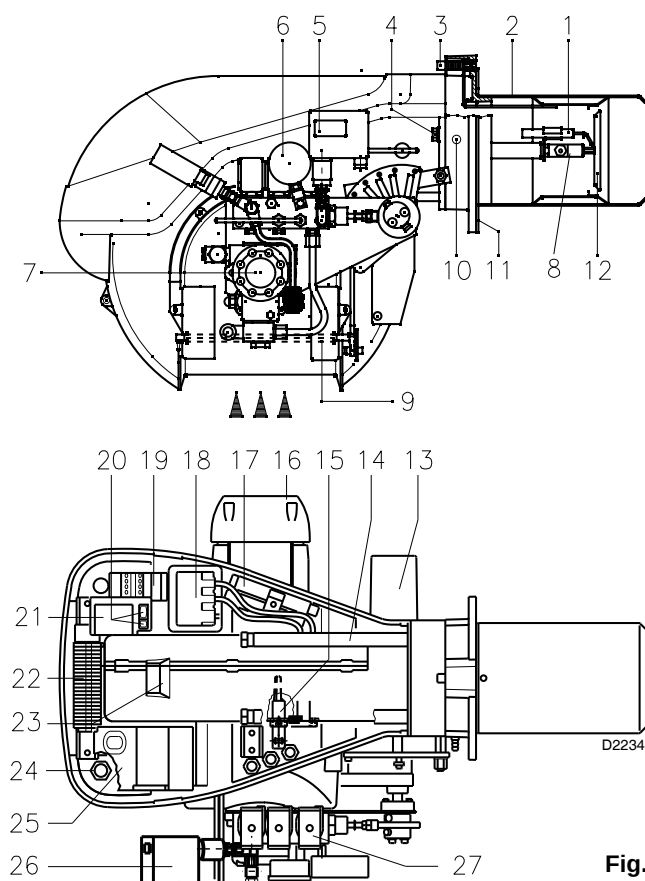

Fig. 1
## 4.3 Burner description (Fig. 1)
Control Box Lock-out: if the control box 25) (Fig. 1) pushbutton lights up, it indicates that the burner is in lock-out. To reset, press the pushbutton.
Motor trip: release by pressing the pushbutton on thermal cut-out 19) (Fig. 1).
- 4 - Extensions 17) (Fig. 1) for slide bars 14) (Fig. 1) (for models with 385 mm blast tube)